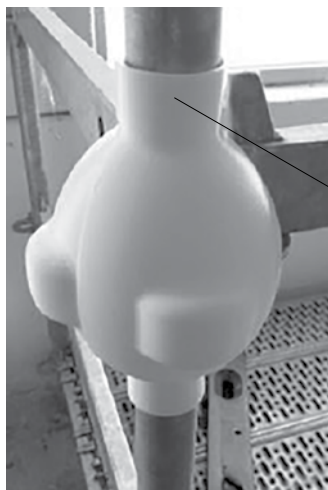

Fig. A8.07
3. If the Ledgers are arranged around a  $90^\circ$  corner, the Poly Cover UPC-C can also be mounted in an overlapping position. (Fig. A8.07)